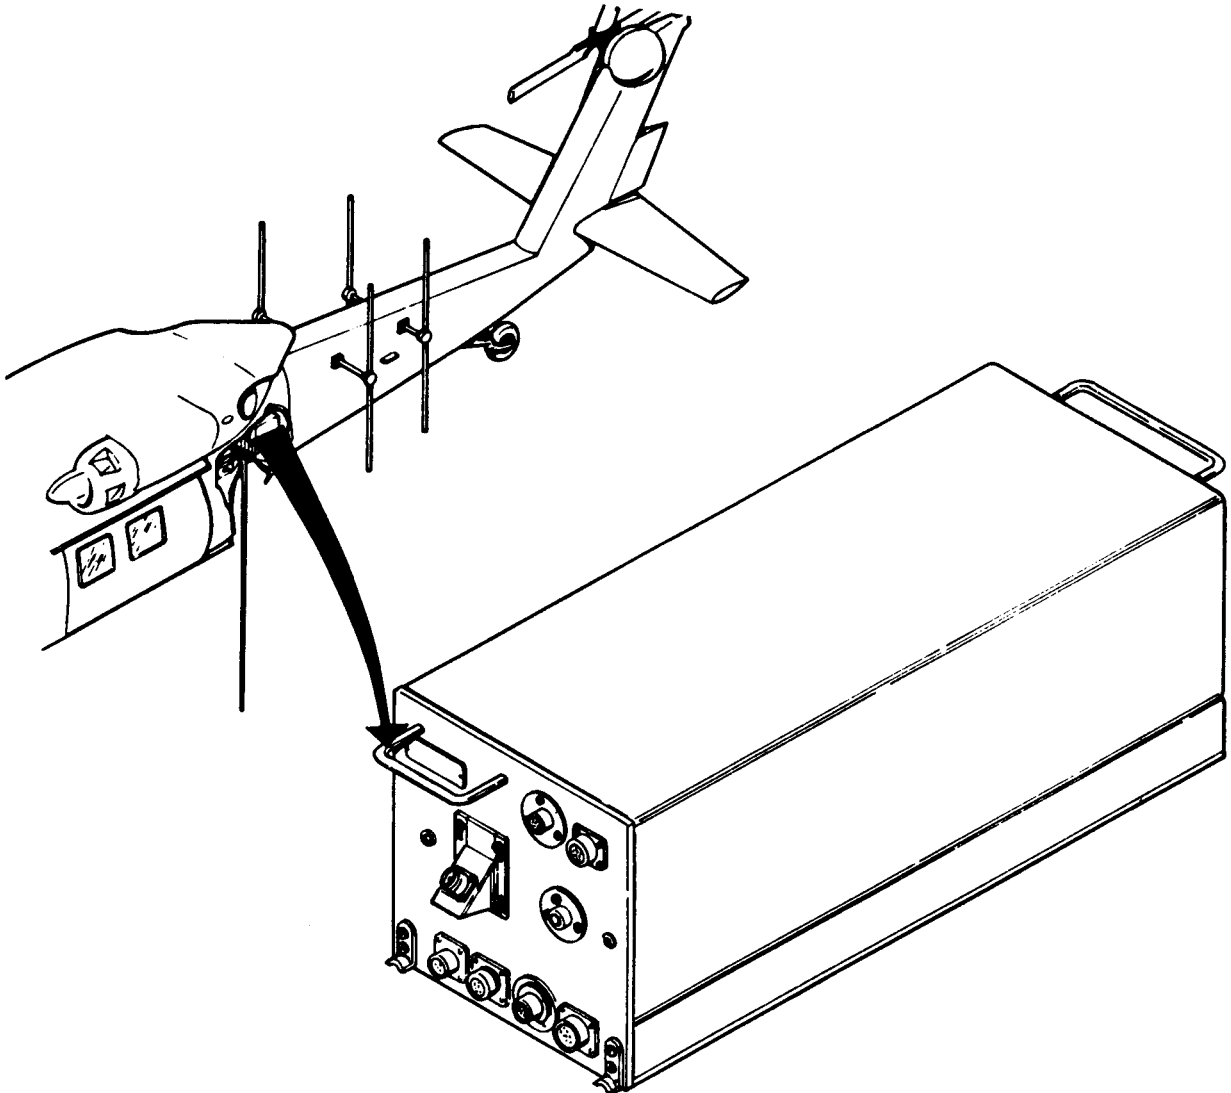

Figure 1-1. Tunable Coupler CU-2293/ALQ-151(V)
This manual provides organizational, direct support, and general support maintenance information, and repair parts and special tools list (RPSTL) for Tunable Coupler CU-2293\ALQ-151 (V) (figure 1-1), hereinafter referred to as the tunable coupler. In addition, the manual provides general information, tabulated data, and a functional description of the equipment. Refer to TM 32-5865-012-10 for organizational operating instructions for the tunable coupler.